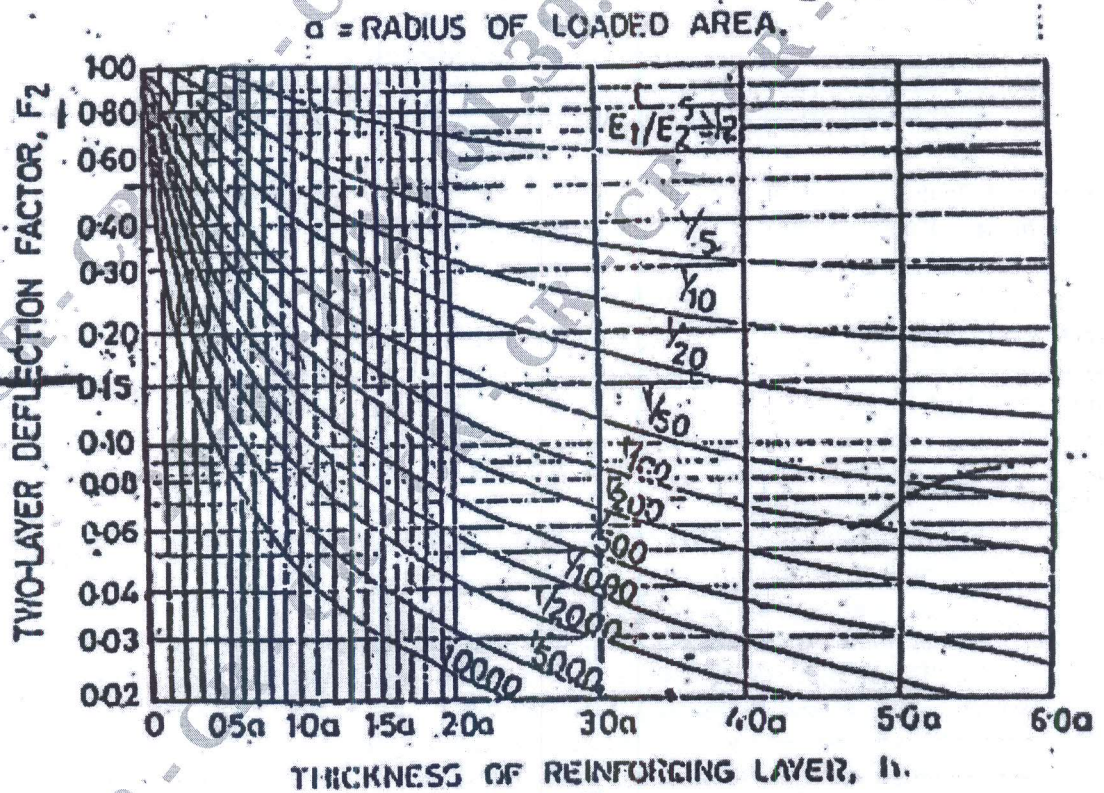

Fig.Q2(b)
- b. A plate load test conducted with 0.3m diameter plate on subgrade and on a pavement of thickness 0.4m sustained pressure of 0.1MN/m^2 and 0.4MN/m^2 respectively at 5mm deflection. Design the pavement section for 50kN wheel load and contact pressure of 0.7MN/m^2 . For a allowable deflection of 6.5mm. What would be the required thickness? (Use chart Fig.Q2(b)). (10 Marks)